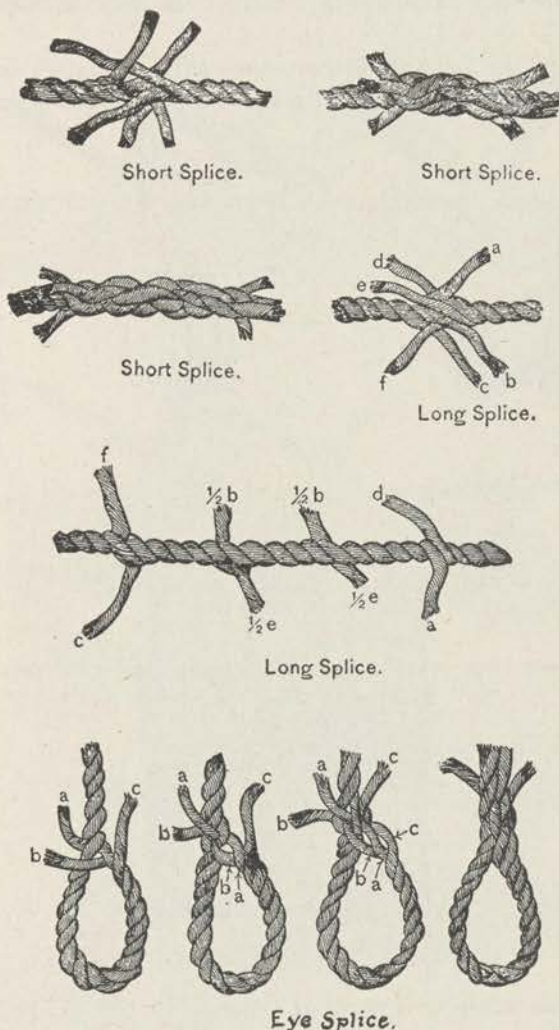

FIGURE 75.—Splices.
*Q.* How is a long splice made? *A.* Unlay the rope and bring together as for a short splice. Unlay to a convenient length a strand (*a*, fig. 75) of one rope, laying in its place the nearest strand (*d*) of the other rope. Repeat the operation in the opposite direction with two other strands (*c*) and (*f*). Lay half of one in place of the unlayed half of the other. Pass the tops through the rope. When the splice has been thoroughly stretched, trim off the ends of the strands.